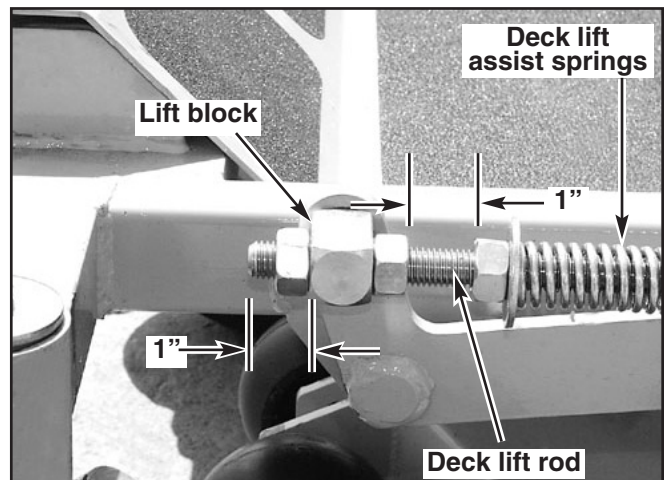

Figure 11-39
9. Set the amount of threads protruding on the deck lift rod from the lift block at approximately 1". Fig. 11-39
27. Compress the deck lift assist springs so that there is 1" of space between the front nut and on the spring and the rear nut on the deck lift block (Fig. 11-39). Typical both sides.